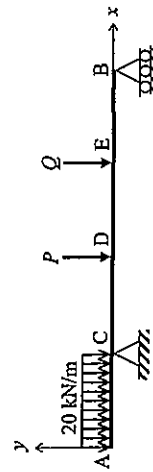

Figure 1
1. The simply supported beam AB is subjected to a uniformly distributed load and two concentrated forces P and Q as shown in Figure 1. The bending moment is $+0.8 \text{ kNm}$ at D and $+1.3 \text{ kNm}$ at E. The length of $AC = CD = DE = EB = 0.3 \text{ m}$. Ignore the weight of the beam.